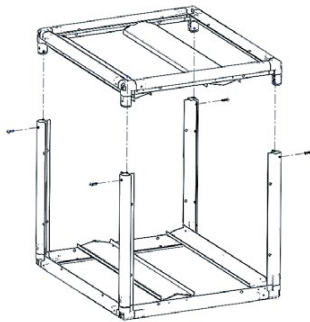

**Fig.4** Install remaining filter rack.
2. Place the remaining filter rack onto the assembly and use qty 4 of the supplied #10-32 screws to attach the filter rack to the assembly. **See Fig. 4**